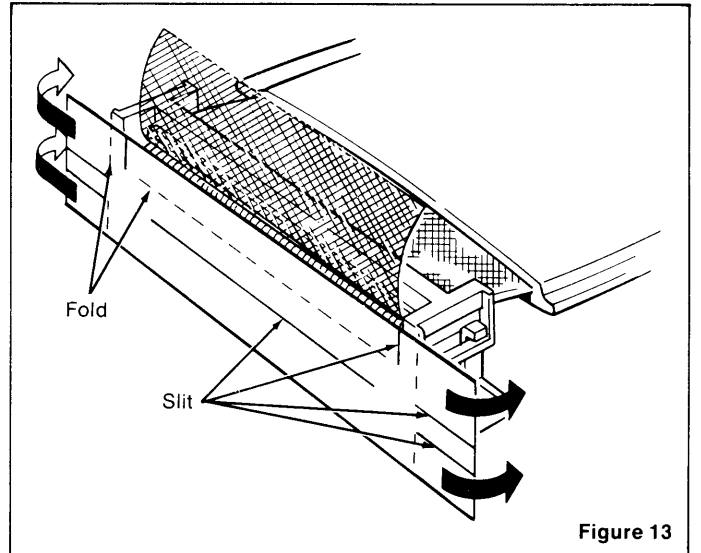

Figure 13
8. Wrap the mating shell with both strips of foil tape, trimming and overlapping to fit. (Figure 13)